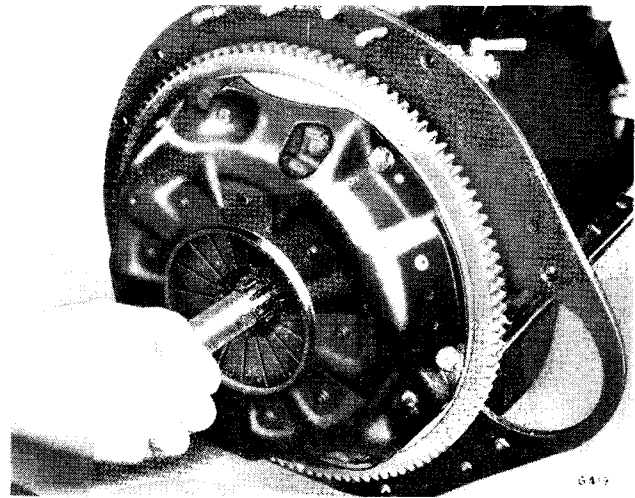

Fig. 73. Centralising the clutch centre plate
2. Place the cover assembly over the locating dowels and secure it with six setscrews to the correct torque (Fig. 73).